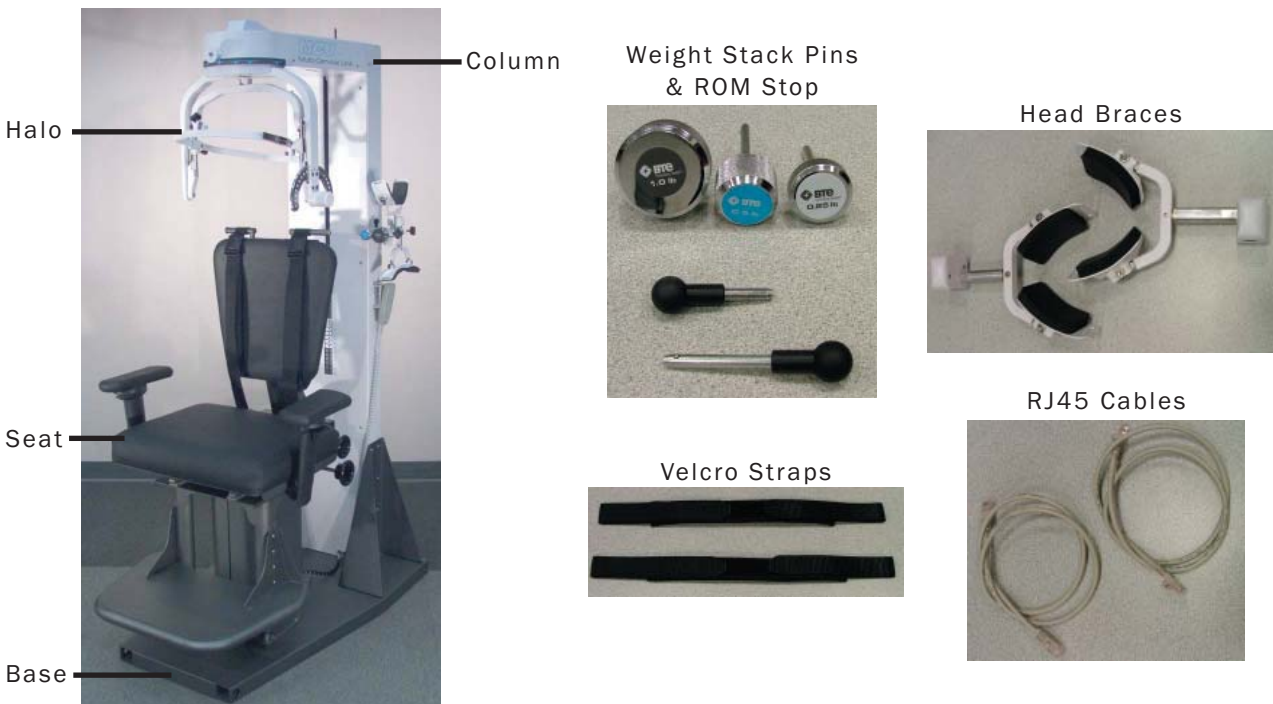

Figure 1-1. Multi-Cervical™ Station
The Multi Cervical™ Station consists of the base, column with weight stack, seat, halo, weight stack pins, ROM stop, (2) head braces, (3) Velcro straps, and (4) RJ45 cables - 2 short and 2 long (Figure 1-1).